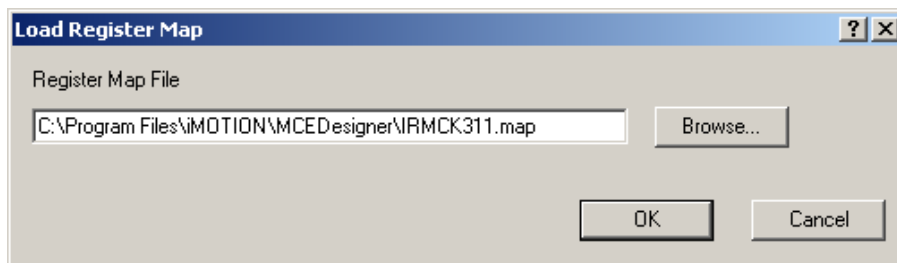

Figure 51. The Import Register Map Dialog
3. When the Load Register Map window (Figure 51) appears, you can enter the pathname of your map file or click the Browse button to browse for the map file.